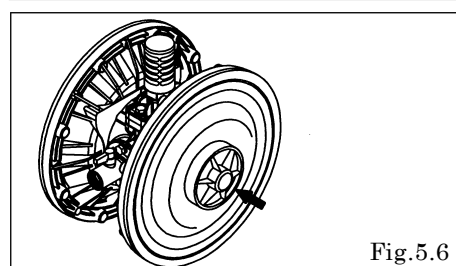

Fig.5.6
- Remove the center disk from one side using the Outer disk wrench (special tool: Part No. 771868). [Fig.5.6]